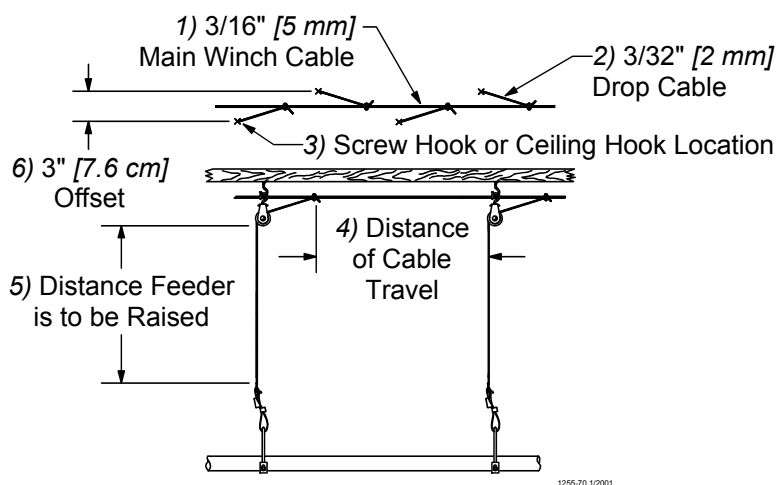

**Figure 12. Power Winch Drum Rotation**
5. Turn the winch drum one full revolution. Guide the cable against the flange at the bottom of the winch drum. The cable must not wrap over itself on the drum, but should be wrapped as close as possible to each previous wrap. **See Figure 12.**